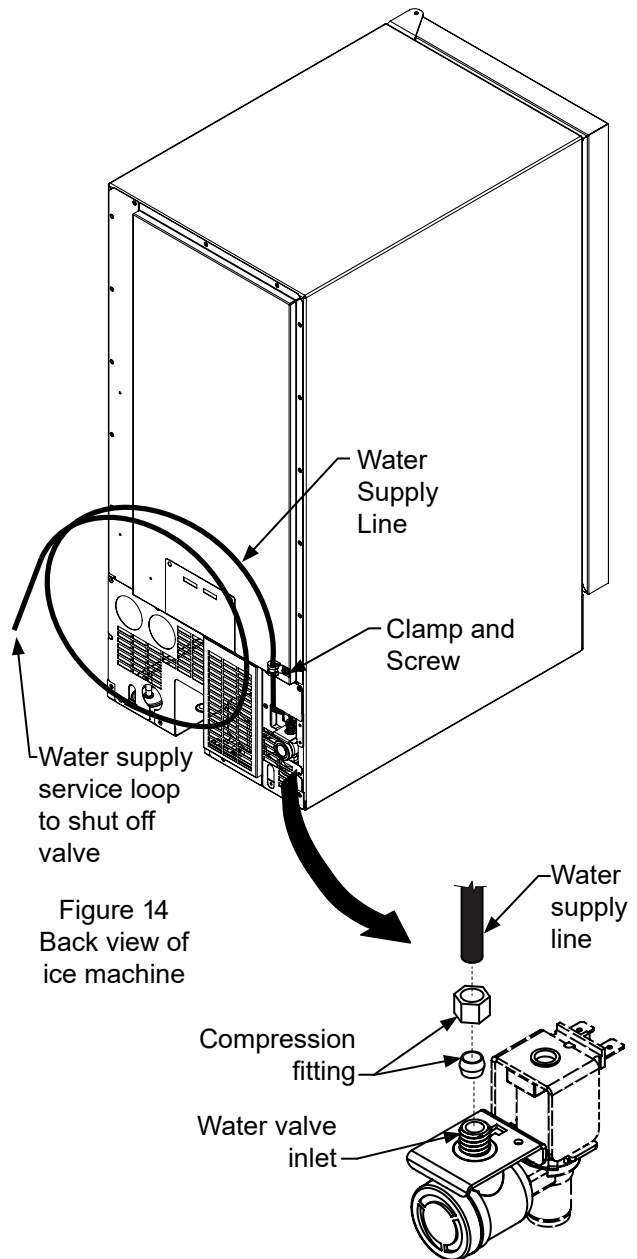

Figure 14
Use 1/4" copper tubing for your water supply which is available at any local hardware or plumbing supply store. Route the 1/4" copper tubing to suit your installation being sure not to kink the tubing. Purchase enough copper tubing length to allow a coil to be formed behind the unit for a "service loop" which will allow the appliance to be pulled out from the installation for servicing or cleaning. (See Figure 14). Connect the copper tubing to the "top side" of a cold water pipe to prevent the ice-maker from plugging with sediment.
**IMPORTANT:** Secure the water supply line to the back of the cabinet with the screw and strain relief clamp provided in the corner of the back panel. (See Figure 14).